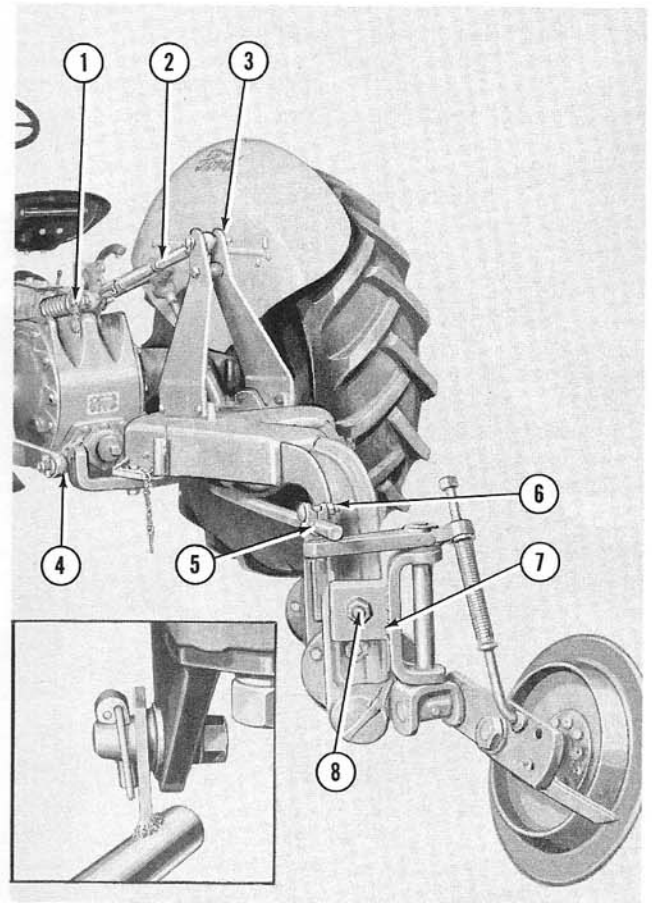

Figure 3
- a. Back the tractor up to the plow frame and attach the lower links to the cross shaft as shown at (4), Figure 3.
- b. Attach the tractor top link (2), Figure 3, in the lower hole (1) in the tractor three hole
- e. Attach the tail wheel support bracket (7), Figure 3, to the upper bolt in the long beam and secure with the lockwasher and nut (8).
- f. Insert the steering arm in the steering arm clamp (5), Figure 3.
- g. Attach the steering arm to the stabilizer bracket as shown in the insert, Figure 3.
**Furrow Wheel Adjustment:** To decrease the width of cut on the front disc, loosen the  $\frac{5}{8}$ " nut (6), Figure 3, on the steering arm clamp (5) and slide the clamp forward along the steering arm. Reverse this proce-